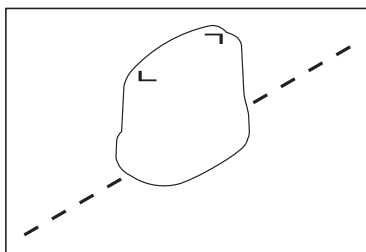

Fig. 25: Alignment of the generator to the line during indirect energising
1. Position the generator so that its longitudinal axis is parallel above the line being located (fig. 25).